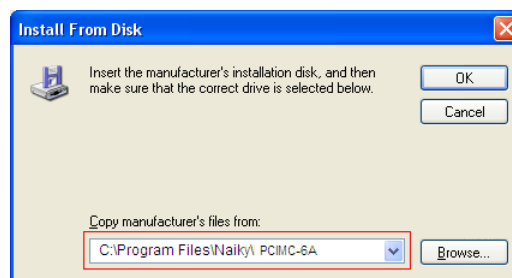

Fig. 2-6 Target file directory confirmation
- 6) After hardware driver being correctly chosen, the interface jumps to the previous dialog box where the target file directory will be displayed under item “Copy manufacturer’s files from:”, as shown in Fig. 2-6.